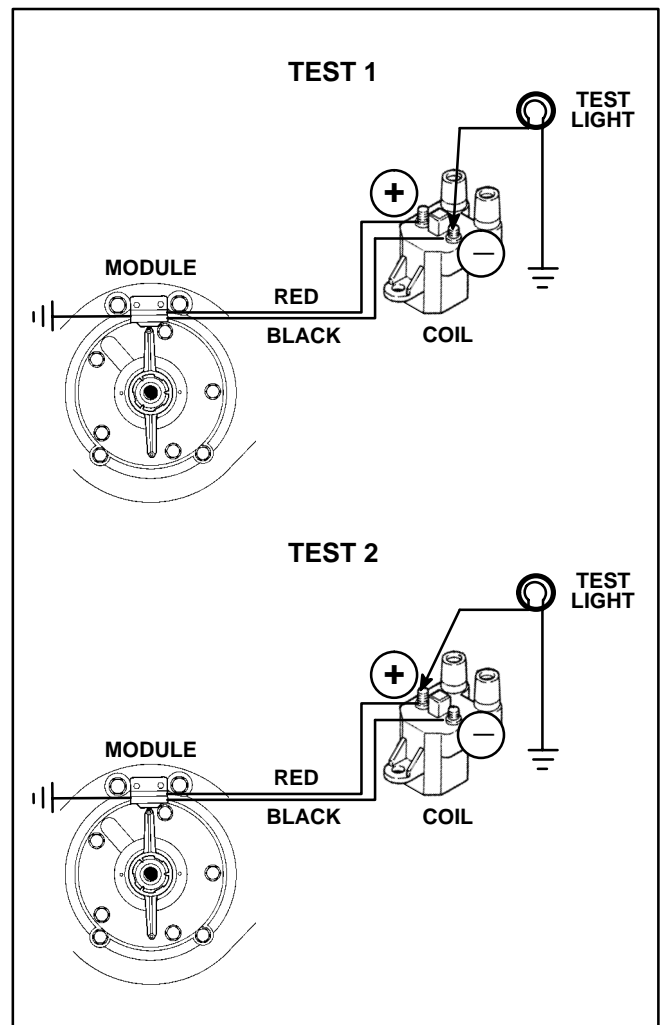

FIGURE 14. TESTING THE IGNITION MODULE
Disconnect the lead at the fuel solenoid so that the genset does not start while cranking and make sure the red lead from the ignition module is connected securely to the positive (+) terminal of the ignition coil and the black lead to the negative (-) terminal. See Figure 14.
**Test 1:** While cranking, ground one lead of a 12 VDC test light to a good ground on the block and touch the other lead to the negative (-) terminal of the ignition coil (Figure 14):
**Test 2:** Move the test lead from the negative (-) terminal to the positive (+) terminal of the coil (Figure 14):